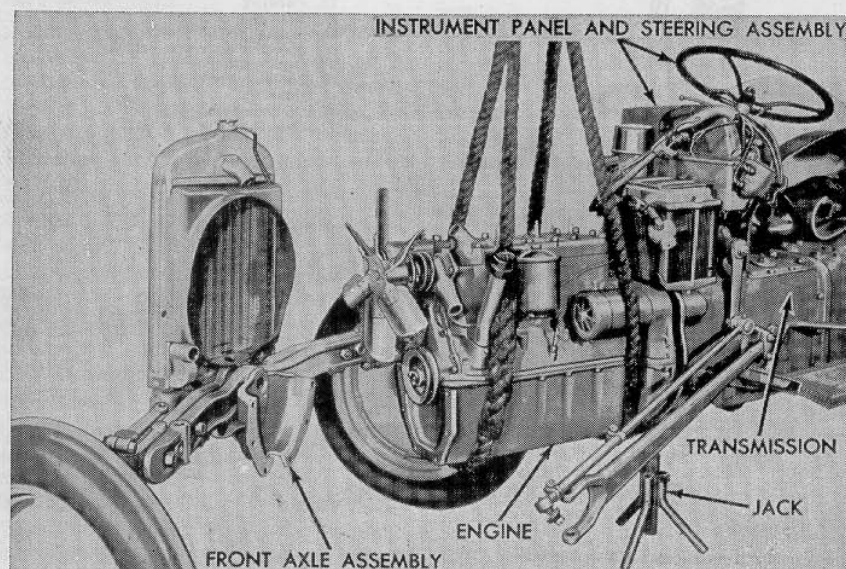

Fig. FO13—Method of removing engine on models 2N-8N-9N.
engine. Remove cap screws holding engine to transmission housing and separate engine from housing. Reinstall engine in reverse order of removal. See Fig. FO13.
28. To remove timing gear cover, drain cooling system and remove hood and radiator. Block up under front end of engine behind axle support and remove bolts holding support in place. Disconnect front end of drag link and mating radius rod on either side of tractor and swing front end assembly away from engine as shown in Fig. FO13. Remove distributor, fan and